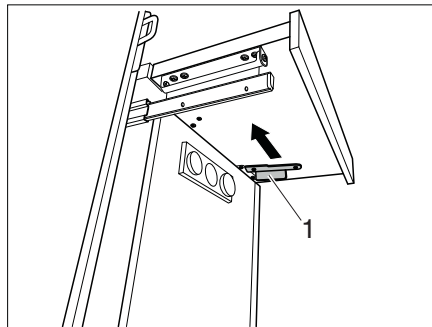

Fig. 130 Securing the extension
- Push the lock (Fig. 130,1) forwards. The extension is secured.
- Loosen the lock (Fig. 130,1).